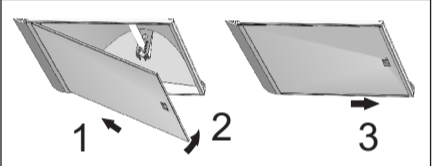

Fig. 18
6. Fit the glass sheets to the heat lamp reflector bodies Fig. 18.